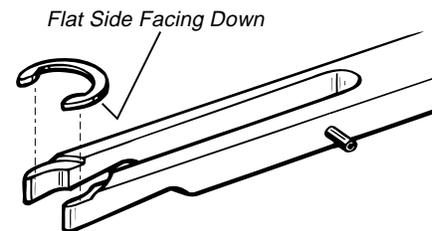

Fig. 9 - Loading Circlip Tool
3. Press the circlip(19) into the recessed ledge in the forks of the Circlip/ Retaining Ring Tool (P/N 1078-46), with its flat side facing down and the open end facing out of the tool (see Fig. 9). The spring tension of the tool will hold the circlip in place while it is being positioned inside the box bottom.